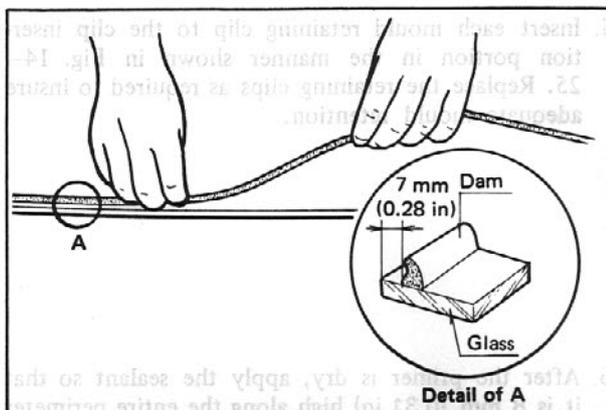

Fig. 14-21
2. Clean the glass thoroughly and bond the dam with bonding agent parallel to the edge of the glass at a position 7 mm (0.28 in) away from it. Bond the dam in the direction shown in Fig. 14-21.